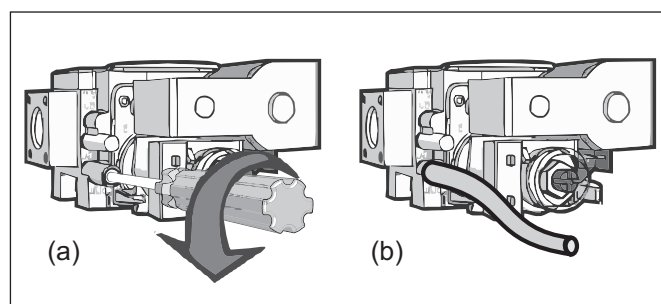

FIG 19
2. The pressure point is closed with a captive screw. Turn screw 6 revolutions anticlockwise to open the pressure point as indicated on **FIG 19 (a)** and place manometer tube over the test point as per **FIG 19 (b)**.